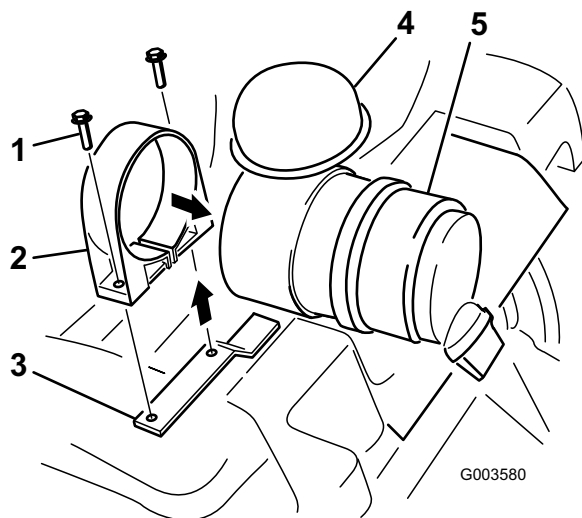

Figure 2
6. Open the air cleaner strap open and pull it over the end of the canister where the filter was taken out (Figure 2).